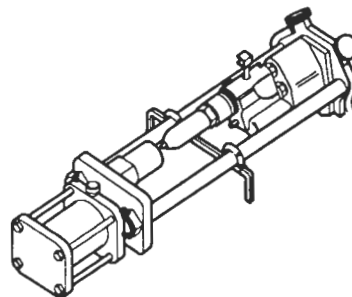

Figure 8. Position of Calibrator Fuel Flow Pipes
1. Before testing injector output, be sure calibrator test oil is supplied to the injector fitting located over the rack. To change the flow from the calibrator, exchange the positions of the braided and the clear fuel lines (Figure 8.)